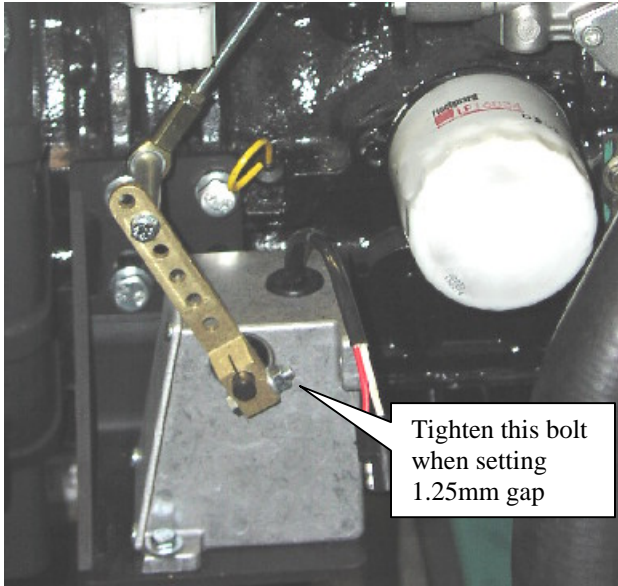
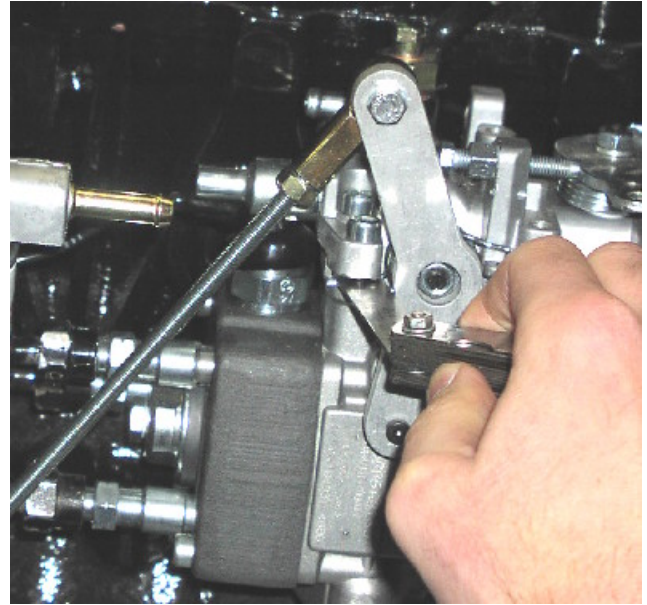

Figure 6 – Use second hole for linkage
Figure 7 – 1.25mm gap – Hold Run/Stop Lever in this position as you tighten the Actuator Lever bolt to the shaft.
Insert the M6 x 90 Bolt (15) through the second hole from the end of the Actuator Lever (9) as shown in Figure 6. Next, slide the Spacer (16) onto the bolt (15) followed by one end of the Linkage Assembly (14), Flatwasher (13b), IT Lockwasher (17) and Nut (11b).
Insert the M6 x 25 Bolt (10b) through the Run/Stop Lever Adapter (5) followed by a Flatwasher (13b), the other end of the Linkage (14), IT Lockwasher (17) and Nut (11b). See Figure 7. Tighten both bolts to 120 in. lb. Slide the Linkage assembly back and forth a couple of times to insure smooth operation.
Use a 1.25mm (.050”) feeler stock to set the gap at the Run/Stop Lever as shown in Figure 7. While holding the feeler-stock in place, tighten the Actuator Lever bolt (9) (Figure 6) to 120 in.lb. This will insure that the actuator has sufficient travel to shutdown the engine when de-energized.